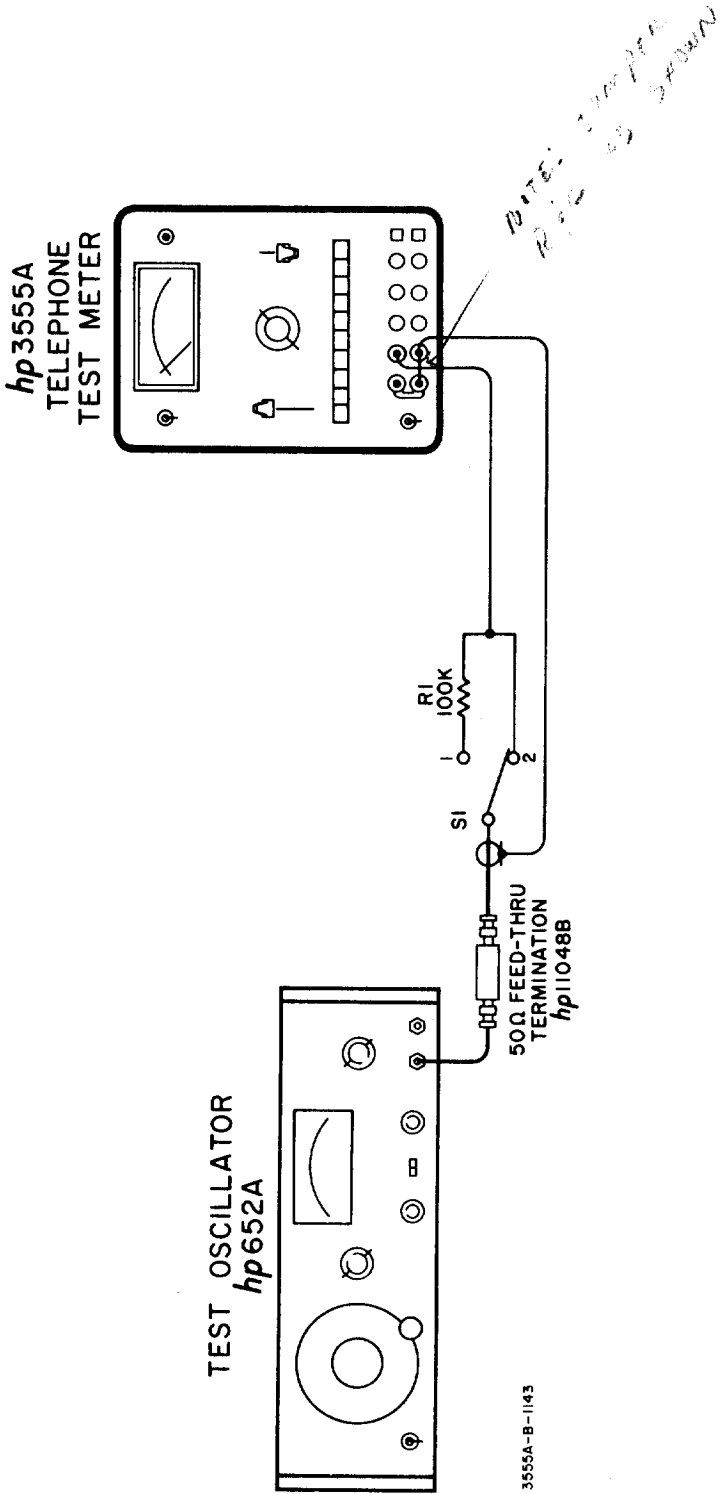

Figure 5-1. Input Impedance Test Setup
- (1) Connect the 3555A and the 652A Test Oscillator as shown in Figure 5-1 and set the 3555A controls as follows:
- (1) Connect the equipment as shown in Figure 5-1. Change R1 to $49.9\Omega \pm 1\%$, set S1 to position 1, and set the 3555A controls as follows:
- (2) With the equipment connected as shown in Figure 5-1, remove the short between ring and ground (G). Change R1 to $100\text{ k}\Omega \pm 1\%$ and set the 3555A controls as follows: